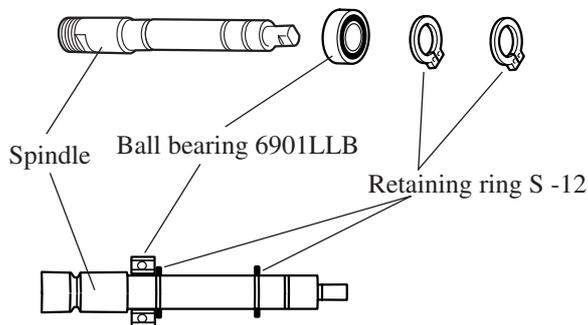

Fig. 6
(1) Assemble ball bearing 6901LLB and 2 pcs. of retaining S -12 to spindle as illustrated in Fig. 6.